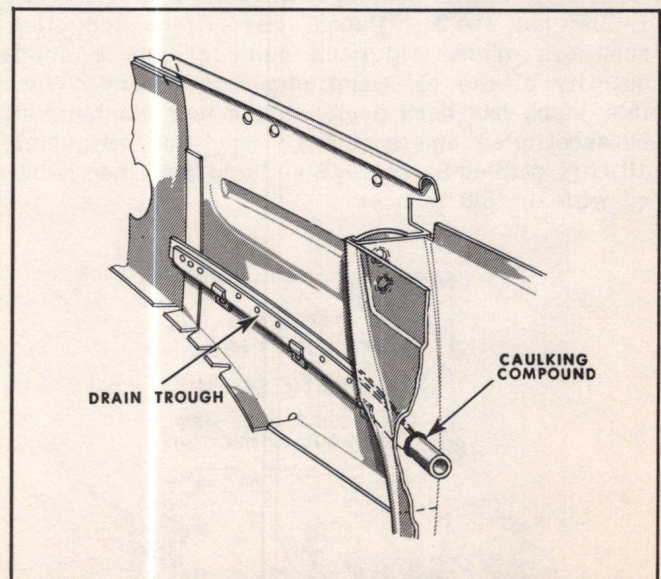

Fig. 3 Sealing Inner Gutter Joint
1. In the event waterleaks are encountered at the drain tube to rear quarter window gutter joint, the rear quarter window and guide channel can be removed and the inner gutter joint sealed with 3M Body Caulking Compound as shown in Fig. 3.